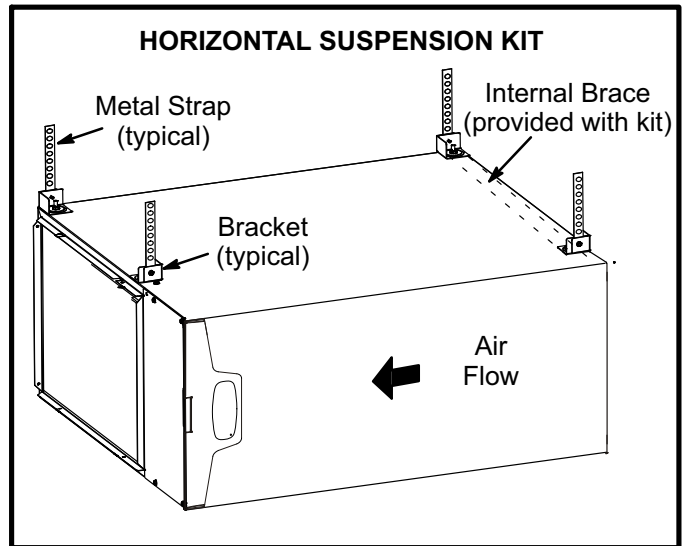

**FIGURE 17**
The EL296UHE furnace can be installed in horizontal applications with either right- or left-hand air discharge. Refer to figure 17 for clearances in horizontal applications.
- 1 - Select location for unit keeping in mind service and other necessary clearances. See figure 17.